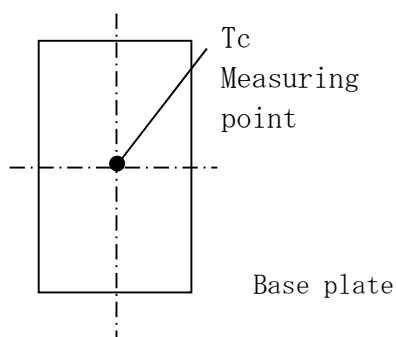

Fig.1.1 Measuring point of aluminum base plate temperature.
- (1) Input : DC 200~400 [V]
(2) Output : Rated output
(3) Aluminum base plate temp. : 70 [°C] (Fig1.1)
(4) Ambient temp. : 25 [°C]